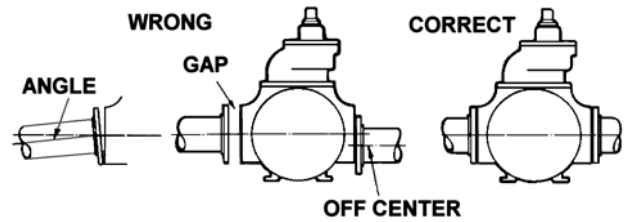

Figure 1
9. Check alignment of pipes to pump to avoid strains which might later cause misalignment. See Figure 1. Unbolt flanges or break union joints. Pipes must not spring away or drop down. After pump has been in operation for a week or two, completely recheck alignment.